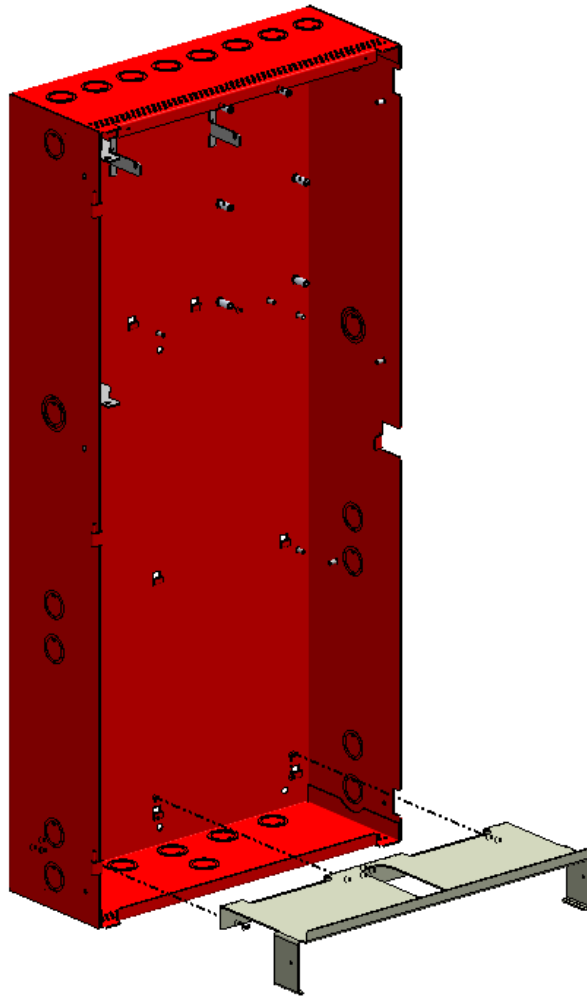

Figure 2-21. Installing the Battery Tray into Bottom Tier
3. Orient the tray such that its vertical lip is facing the front of the enclosure, as shown in Figure 2-21.